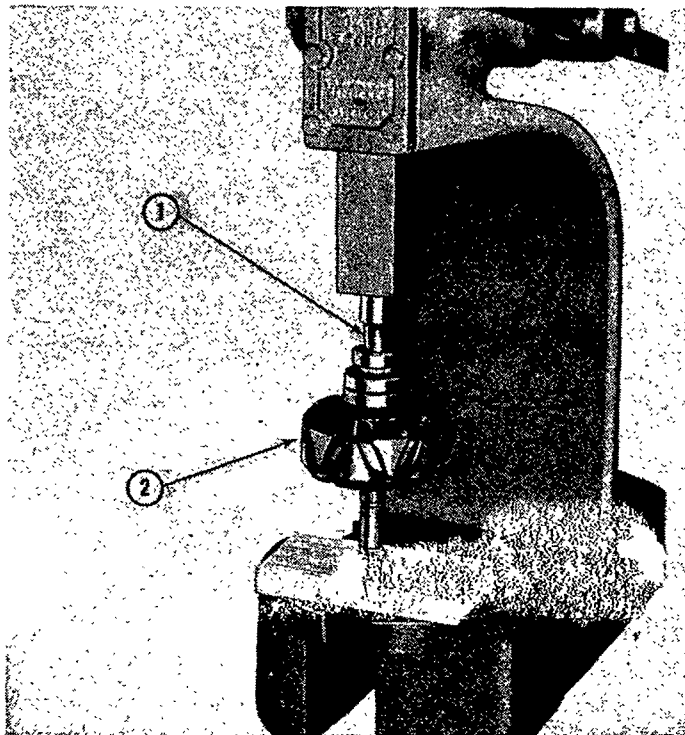

Figure 56
9. Support the front of the rotor shaft in a press. Using a 7/16 inch (11.11 mm.) socket or sleeve that contacts the inner race only, press the rear bearing over the rotor, as shown in Figure 56.